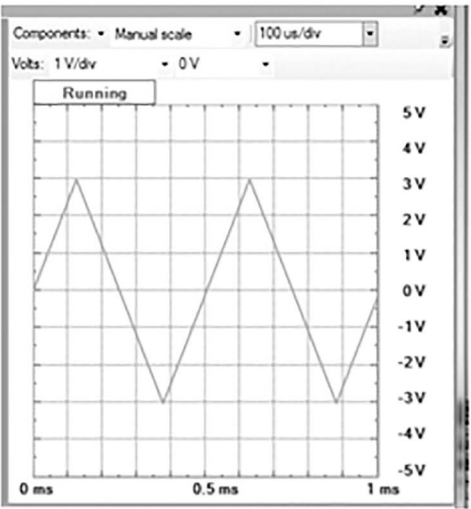

FIGURE P4.6
Problem 4.6 (1) Use the Analog Discovery board to find the rms value of the triangular waveform of frequency 2 kHz, shown in Figure P4.6. (2) Compare